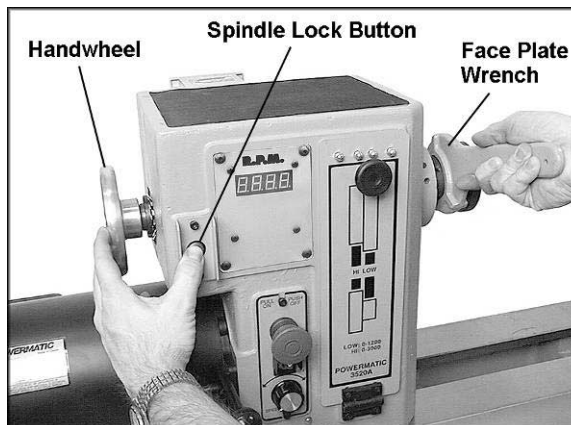
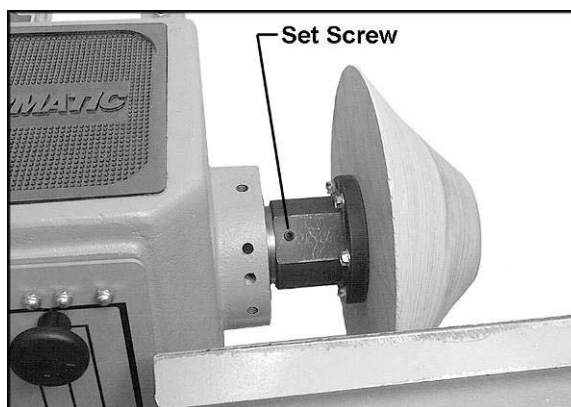

Figure 21
Figure 22
3. Push in the spindle lock button (Figure 21) and rotate the handwheel slightly until the spindle locks. Keep the spindle lock button pushed in.
⚠ WARNING If at any time you will be *reversing* spindle rotation, make sure the two set screws in the face plate are tight! One of these is shown in Figure 22. Failure to do this may cause the face plate to loosen from the headstock spindle.
5. To *remove* the face plate, loosen the two socket set screws (Figure 22). Engage the spindle lock button and turn the face plate counterclockwise with the face plate wrench, as shown in Figure 21.
⚠WARNING When turning with a face plate, make sure both set screws on the face plate are tight (see Figure 22) before reversing the spindle. Failure to comply may cause the face plate to spin loose from the spindle.